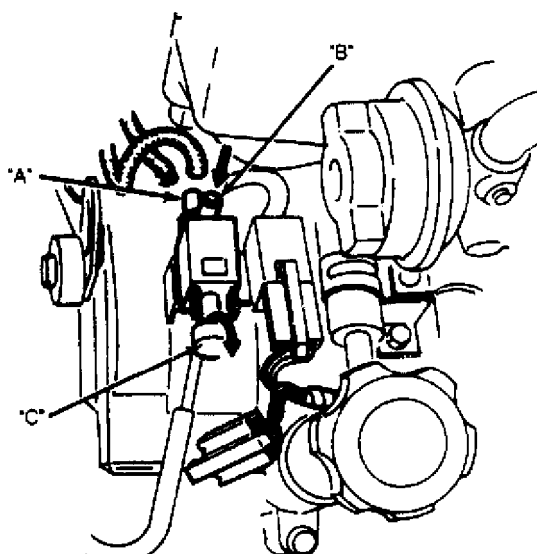

Fig. 3: Testing vacuum control solenoid valve
1) Disconnect vacuum sensing tubes from solenoid valve and vacuum pipe. Blow through solenoid valve from port "B". Make sure air passes through valve and comes out from air filter "C". See Fig. 3.